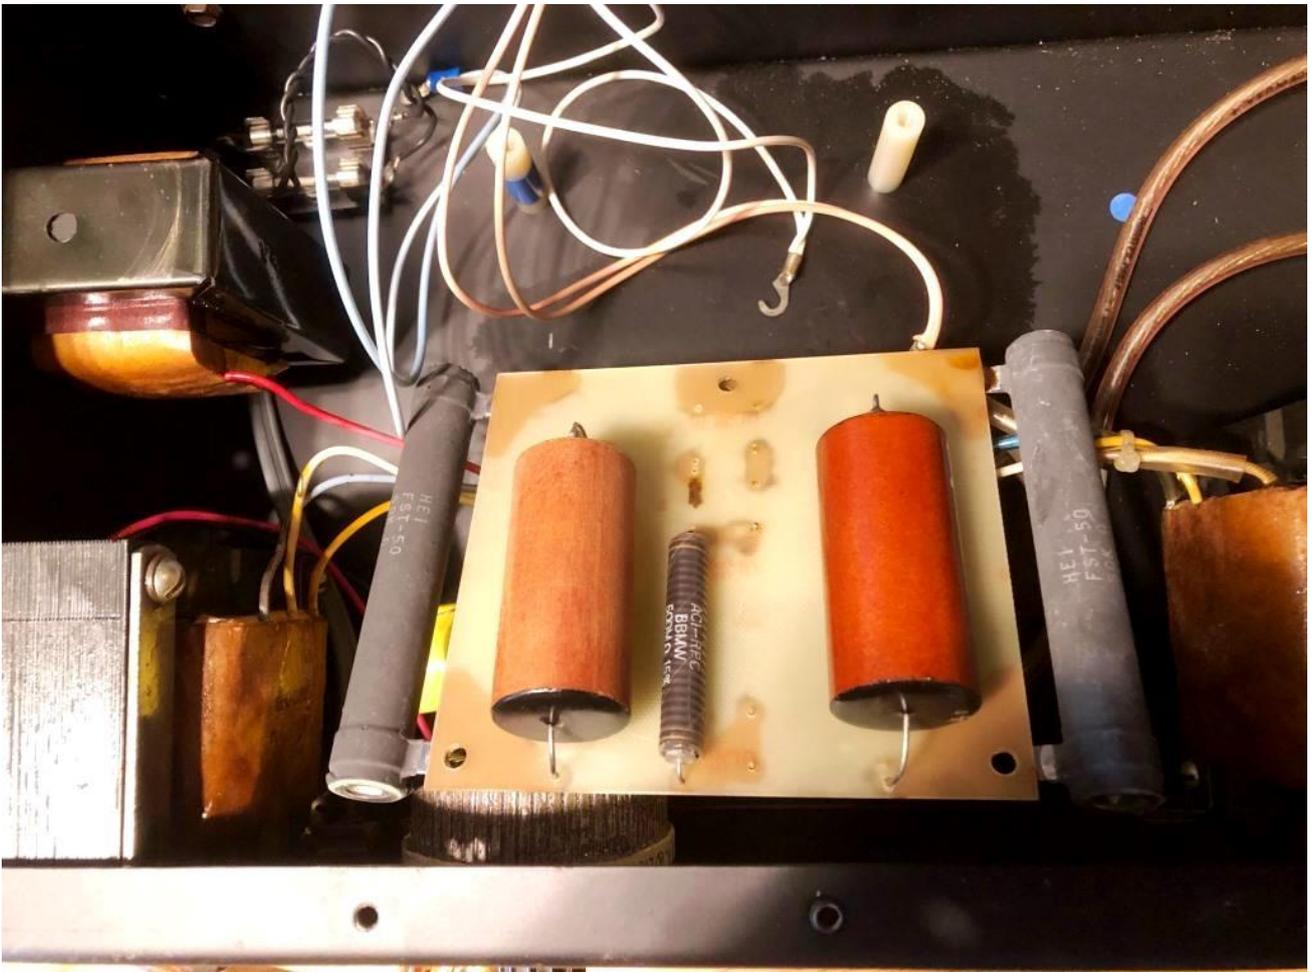

Figure 2. Interface 104333, oil leakage from discoloured right-side capacitor – board displayed upside down to show capacitors.
- Oil had leaked out from the high-voltage audio capacitors, leaving a sticky goo on the inner surface of the chassis (Fig. 2).